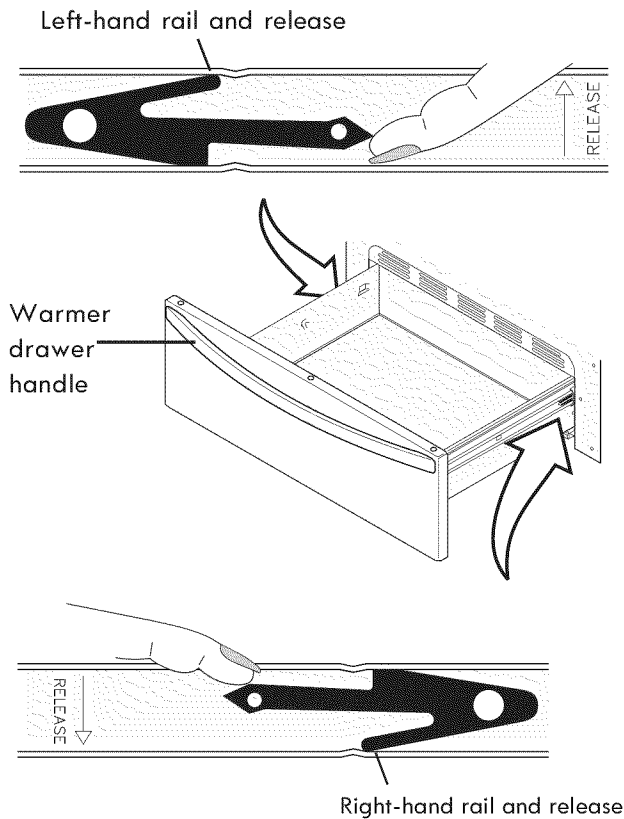

Figure 36: Removing the warmer drawer
3. On left warmer drawer rail, locate black release lever and press up with finger while pulling out slightly on the oven drawer handle. On right warmer drawer rail, locate black release lever and press down with finger while pulling out slightly on the warmer drawer handle (See Figure 36).